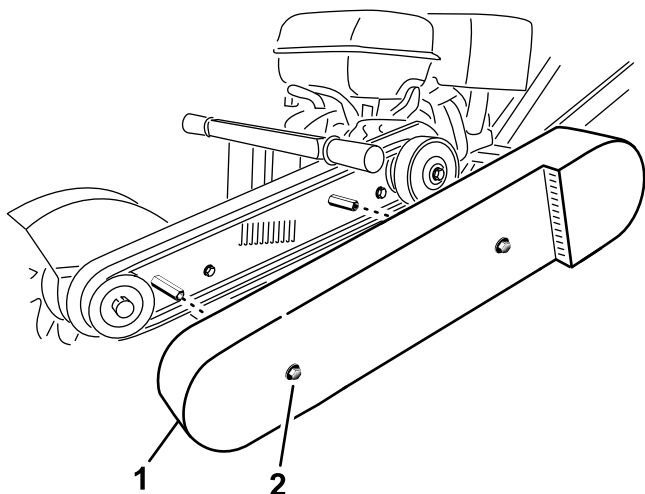

Figure 24
3. Loosen the 2 bolts securing the belt guard to machine until you can remove the belt guard (Figure 24).
2. Bolt and washer (2)
4. Remove the belt guard (Figure 24).